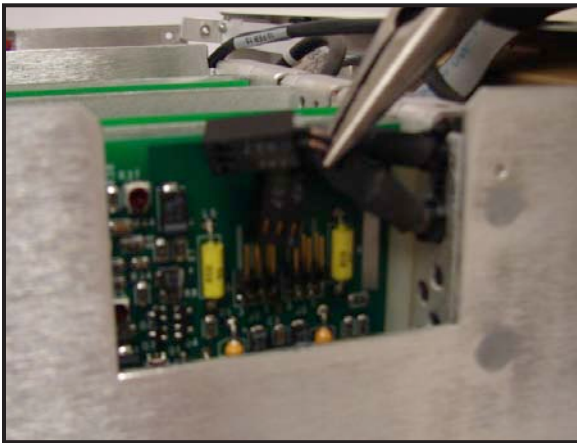

Figure 6-29
5. Disconnect the ultrasound cables from the connectors on the ultrasound board (See Figure 6-29).